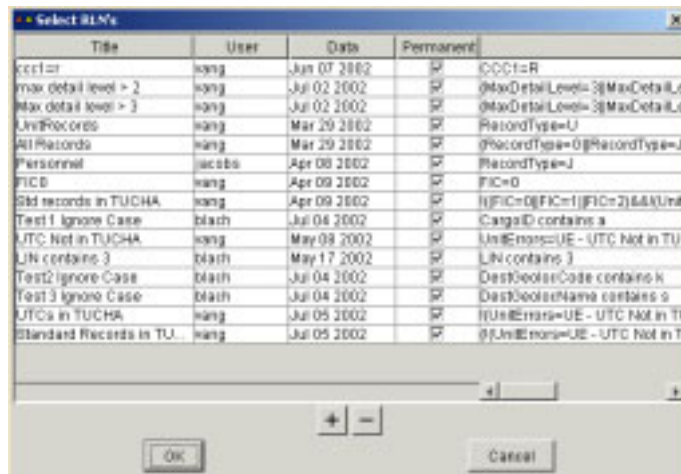

Figure 5.100 Select RLN's Window
- Click  or on the View menu, click Select RLN's. The Select RLN's window opens (Figure 5.100).